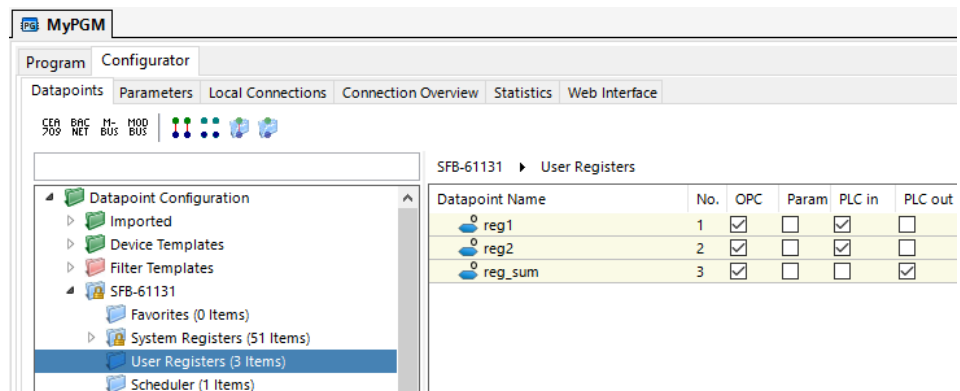

Figure 54: Setting PLC in and out on data points in the Configurator
- Open 'MyPGM' and go to the **Configurator** tab. This opens the Configurator for this IEC 61131 program. Create data points as needed, e.g., reg1, reg2, reg_sum. Set **PLC in** on reg1 and reg2 and set **PLC out** on reg_sum as shown in Figure 54. Click on **Save** in the toolbar.